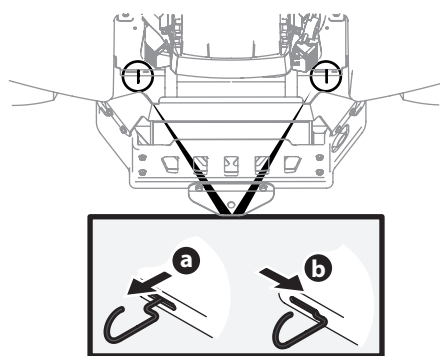

Figure 2-1
1. Engage the transmission bypass rods, one on each side of the tractor, to move the tractor manually without starting it. The transmission bypass rods are located on the rear of the tractor, just inside each rear wheel. Engage the bypass rods by pulling each one out (a) and to the right (b) to lock it into place. See Figure 2-1.
2. Disengage the bypass rods by reversing steps a & b after moving the tractor. See Figure 2-1.